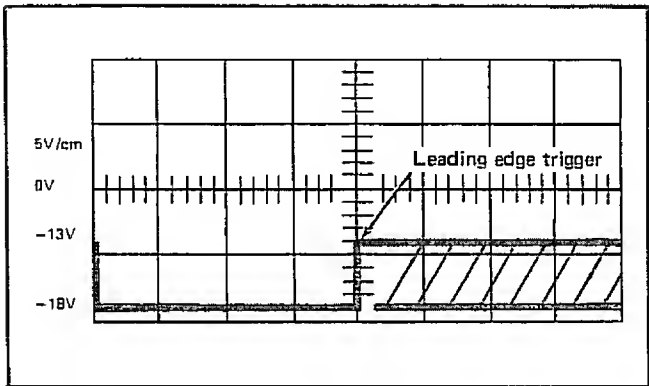

Figure 4-4. TP17 COMPARE SIGNAL
- The scope presentation shown in Figure 4-4 represents the proper compare signal for an 8800A input of +1 volt dc.